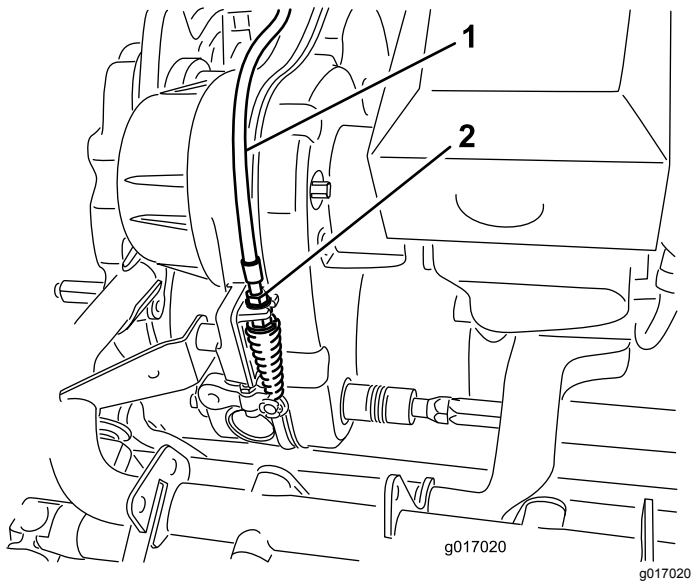

Figure 49
2. At the transmission bulkhead, adjust the reel-control cable (Figure 49) to attain a spring length of 70.6 to 72.4 mm (2.78 to 2.85 inches).